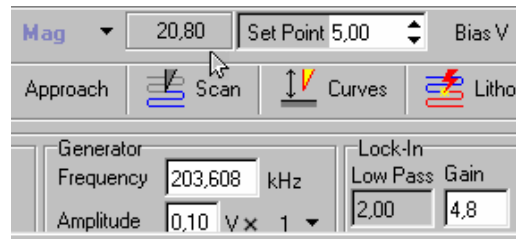

Fig. 4-17
2. Changing **Amplitude** parameter with the help of the slider set a value of **MAG** signal equal to 20-25 units. Monitor a signal value in the feedback signal value display field (Fig. 4-17). If necessary, switch a multiplier of the generator amplifying-dividing stage. That multiplier is